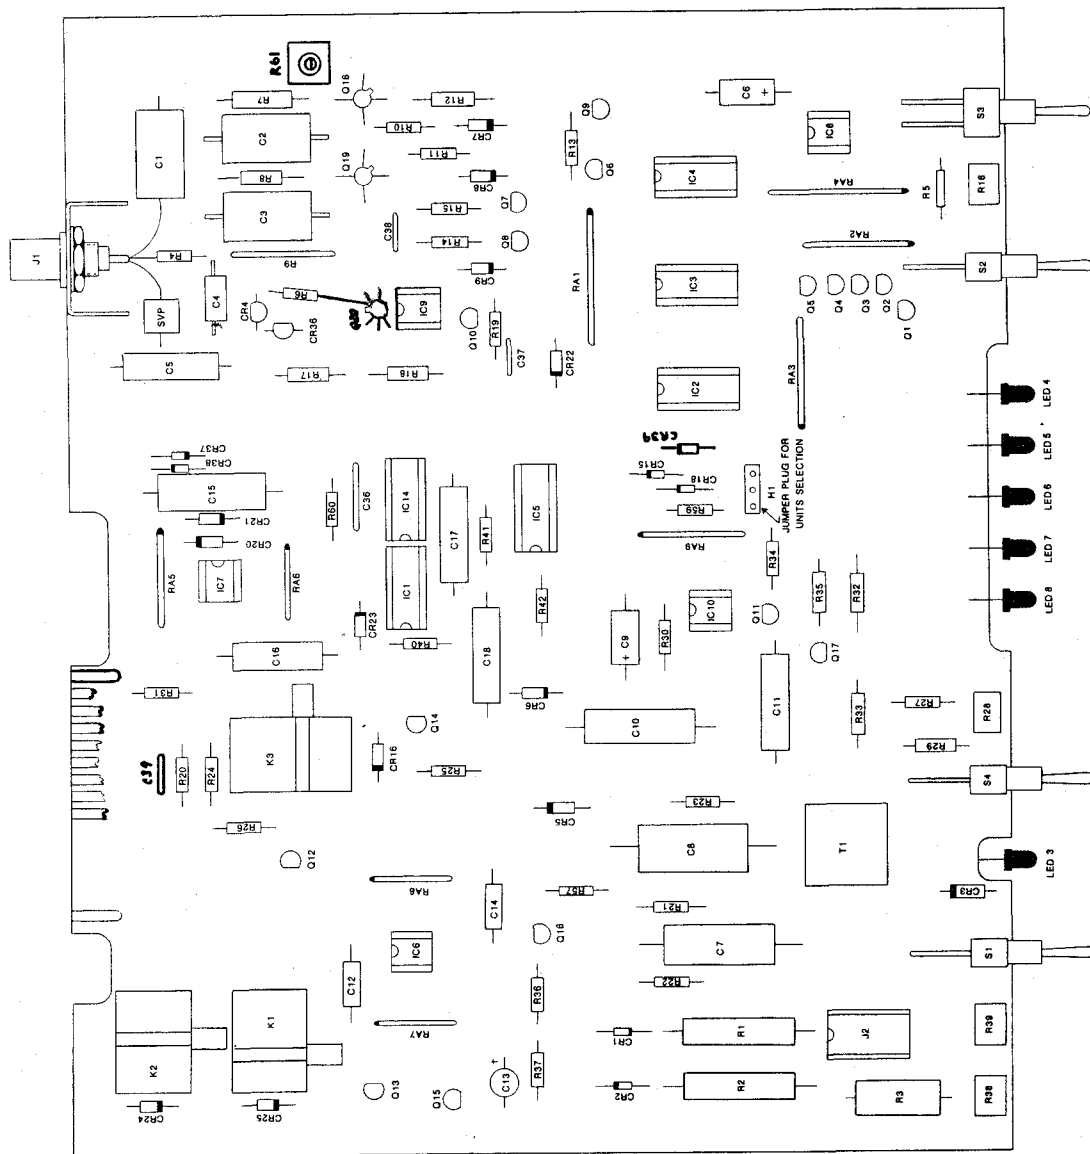

FIG 6-1 COMPONENT LOCATION MAIN BOARD
6.6 Electrometer Circuit (Refer to Fig. 5-5 and Fig. 6-1)
6.7 Autoranging Problems (Refer to Fig. 5-6 and Fig. 6-1)
6.8 Ion Gauge Process Control (Refer to Fig. 5-7 and Fig. 6-1)
7.1 Replacement and Repair Order Instructions (Refer to Figs. 6-1 and 6-2)
7.2 Main Circuit Board Parts List (Refer to Fig. 6-1)